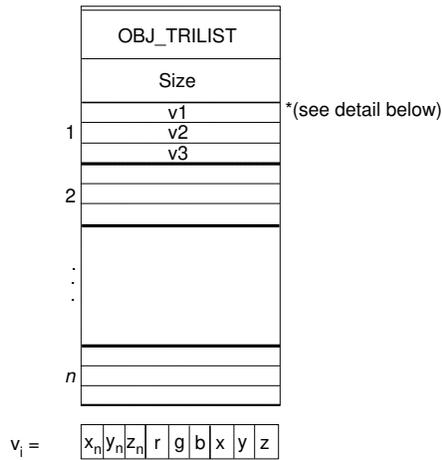

Figure 2-3 SGO triangle list object
- Figure 2-3** SGO triangle list object 10
Figure 2-3 shows the structure of an SGO triangle list object. The object begins with the object token, followed by the size (in 4-byte words) of the data for this object. Next follow nine words of data for each vertex in the object. As shown at the bottom of Figure 2-3, the first three words are the xyz components of the normal vector at the vertex. The next three words are the RGB color components at the vertex. The last three words are the xyz values of the vertex itself.